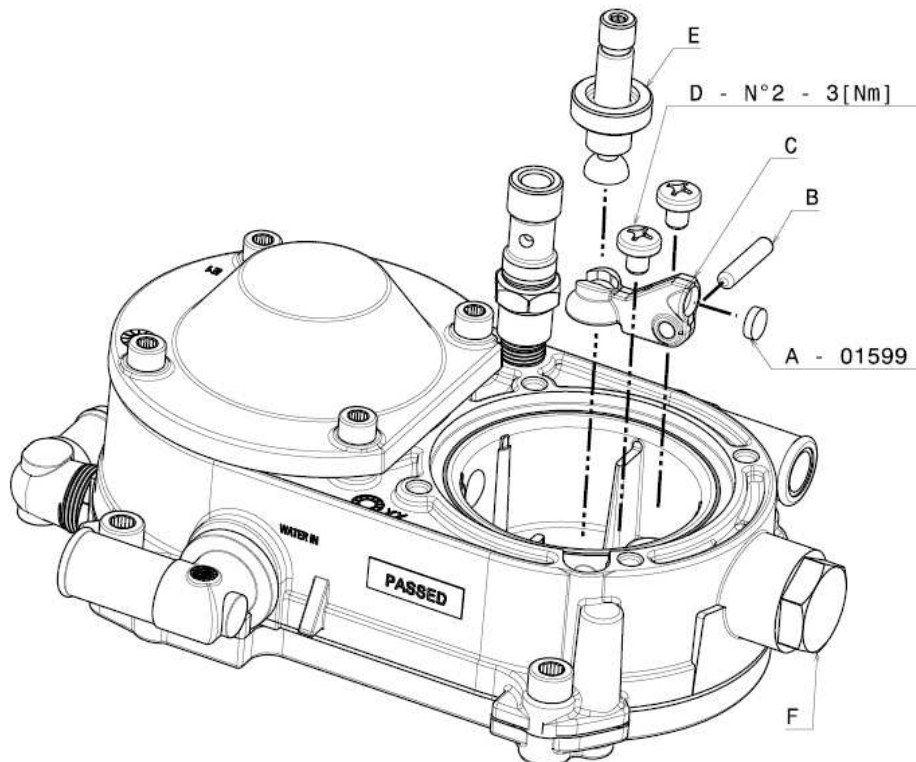

Fig. 6
Remove the bottom protection plate: the first stage leverage (E) is now exposed (Fig. 6). Use a PH1 Phillips screwdriver to unscrew (3Nm) the two screws (D), then pull out the high pressure shutter (C). Remove the small rubber disk (A) off the tip of the shutter and replace with new one (part number 01599). Visually check (with out disassembling) that high pressure brass seat (F) is free of dents or defects, which could affect the sealing.